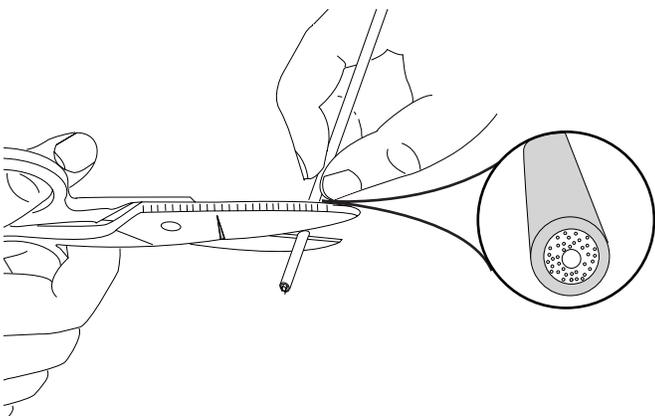

Figure 6
- 5.3 Use the scissors to trim the end of the cable, making sure that all components (sheath, yarns, and 900 µm fiber) are visible and flush with the end of the cable (Figure 6).